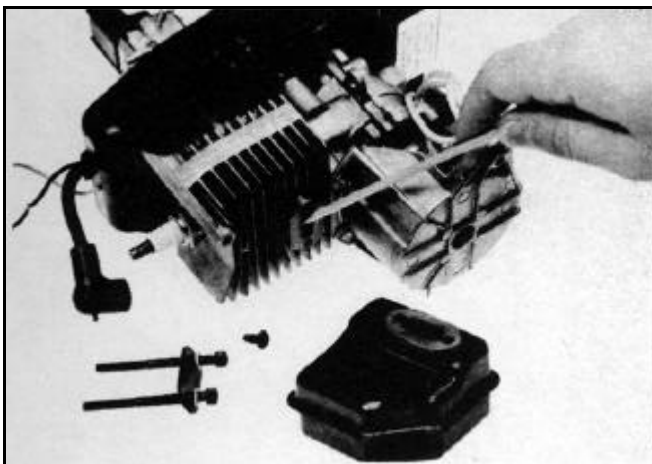

Figure 223 0406-040
3. Remove the muffler and dried gasket material and carbon build up with a putty knife or wooden dowel (Figure 223).